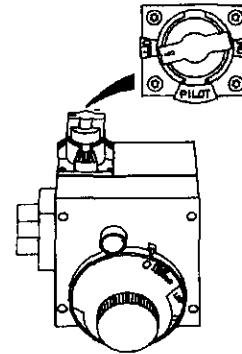
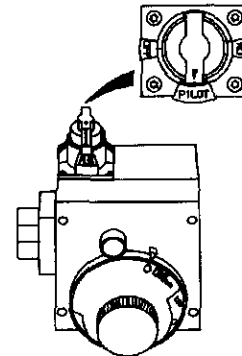

Figure 6
Figure 7
4. Turn gas control knob clockwise (↻) to "OFF" position. Knob cannot be turned from "PILOT" to "OFF" unless knob is depressed slightly. **DO NOT FORCE.** (Figure 6, page 22)
5. Wait five (5) minutes to clear out any gas. If you then smell gas, **STOP!** Follow "B" in the safety information above on this label. If you don't smell gas, go to the next step.
8. If you don't smell gas, turn knob on gas control counter clockwise, (↺) to "PILOT" position. (Figure 7, page 22)
9. Push in control knob all the way and hold down. Immediately light the pilot with a match. Continue to hold control knob in for about one (1) minute after the pilot is lit. Release knob and it will pop back up. Pilot should remain lit. If it goes out, repeat steps 3 through 8.
- If the pilot will not stay lit after several tries, depress and turn the gas control knob clockwise (↻) to "OFF" and call your service technician or gas supplier. (Figure 6, page 22)